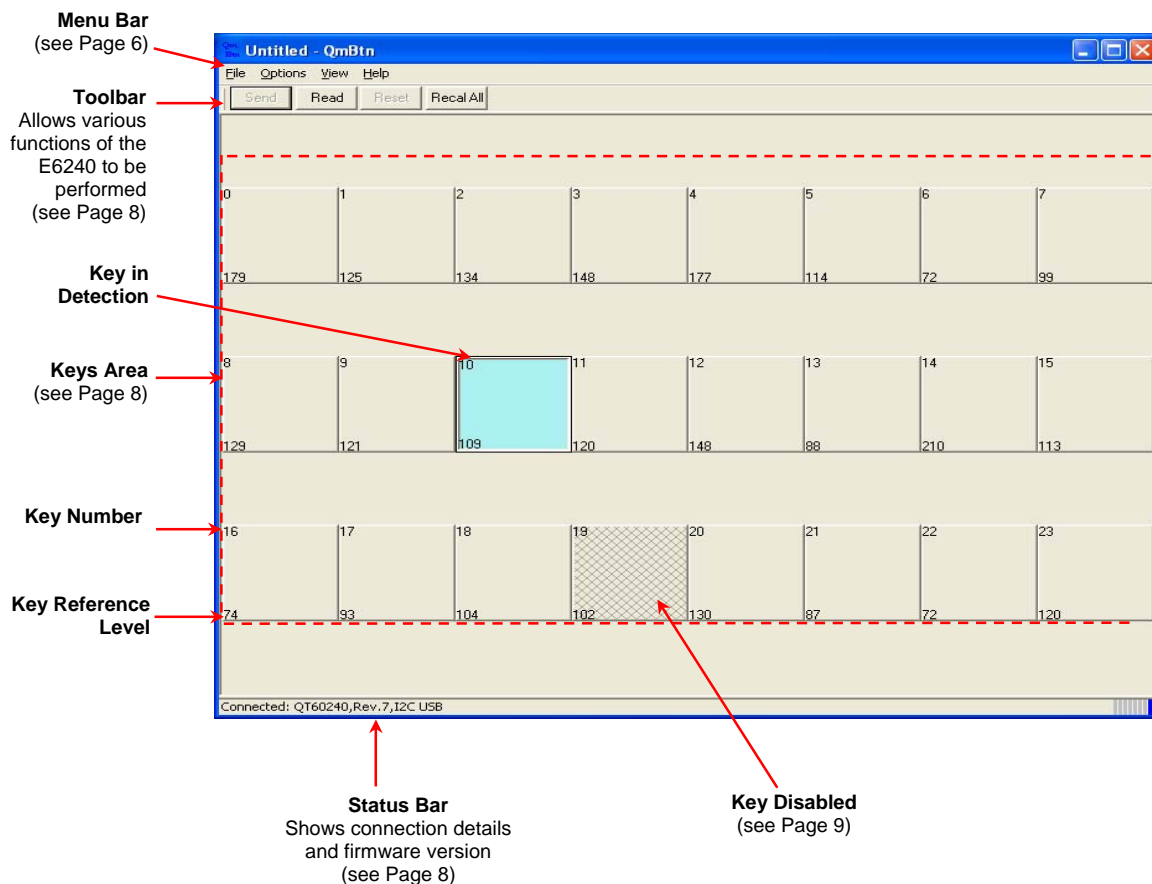
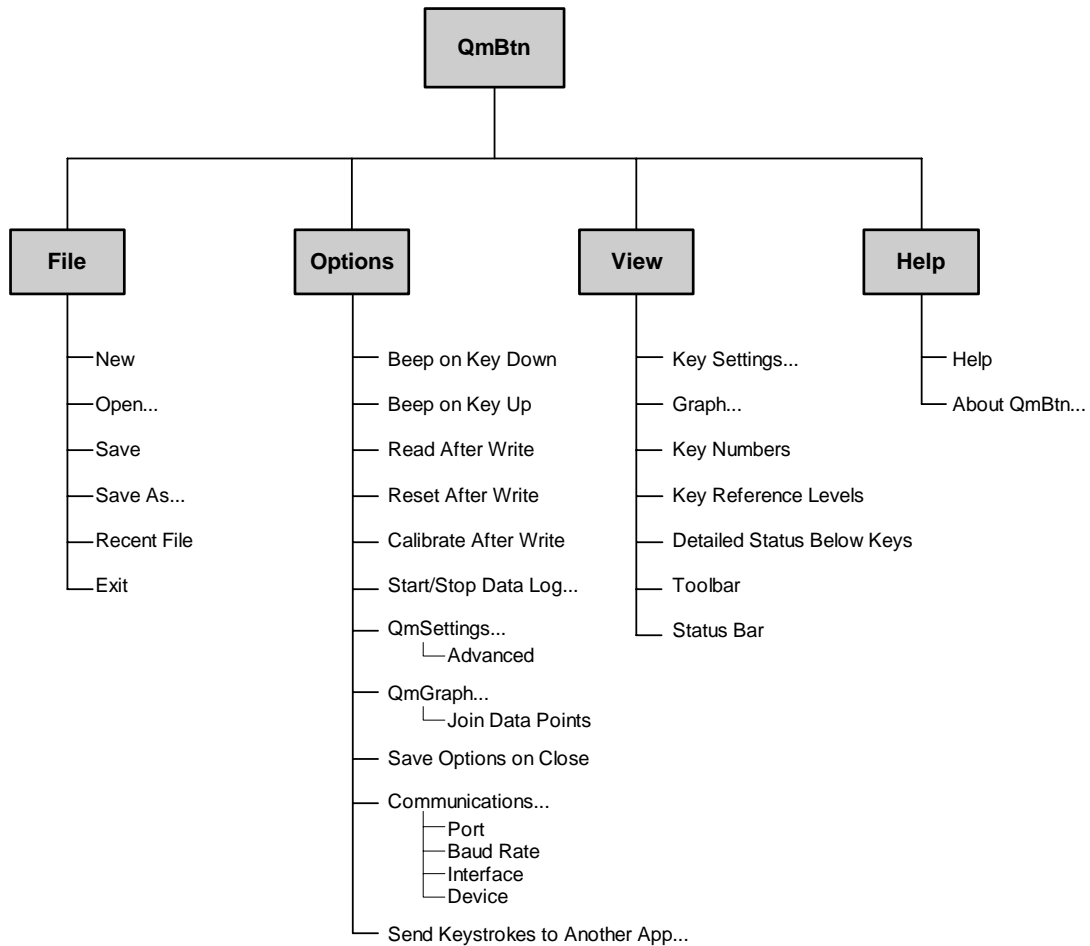

Figure 3: QmBtn Dialog Box
Figure 4: QmBtn Software Menu Structure
- the **QmBtn** dialog box (which opens when the program starts – see *Figure 3, page 5*)
Refer to *Figure 3, page 5* for the location of the Menu bar and *Figure 4* for the menu structure and commands.
If a key area on the E6240 is touched then the corresponding key area on the QmBtn turns blue for the duration of the touch. If a key is disabled the corresponding key area on the QmBtn appears shaded, with a criss-cross pattern (see *Figure 3*).